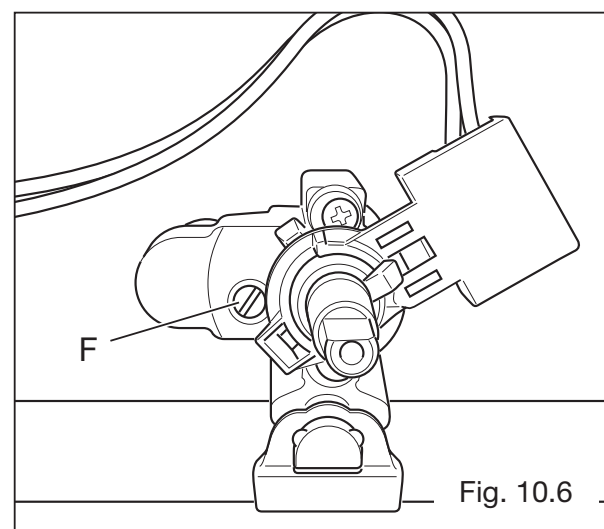

Fig. 10.6
- With a thin screwdriver turn the screw F until adjustment is correct (fig. 10.6).